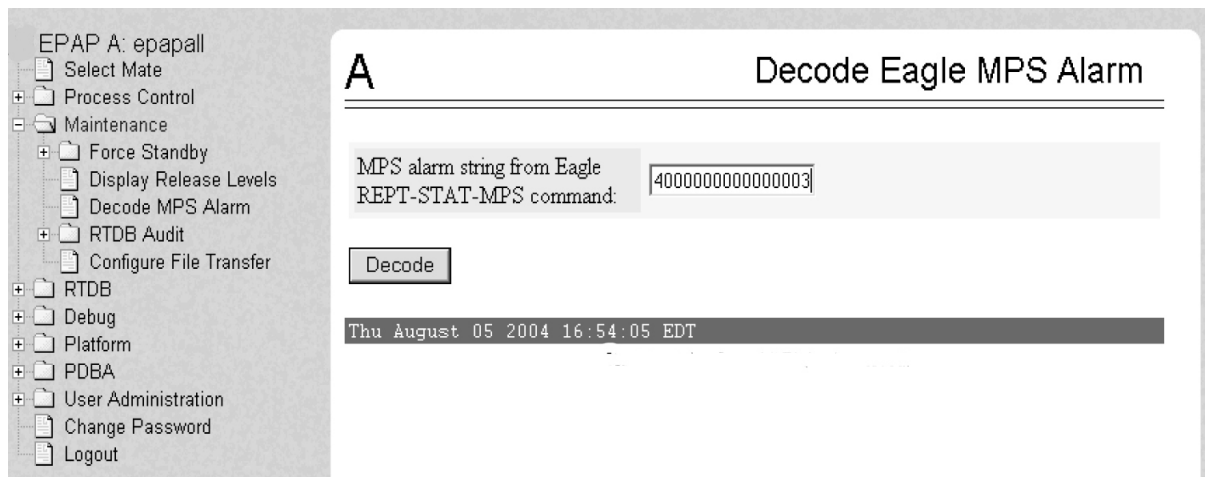

Figure 24: Decode MPS Alarm Screen
3. Enter the 16-digit alarm string into the window on the **Decode MPSAlarm** screen, as shown in Figure 24: Decode MPS Alarm Screen.